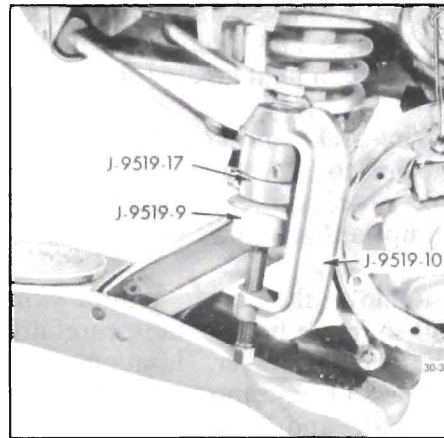

Figure 30-34 - Lower Ball Joint Installer in Place
1. Position ball joint in lower control arm and install Tool J-9519 as shown in Figure 30-34. Purging nipple in ball joint grease seal must be located in the extreme inboard location.